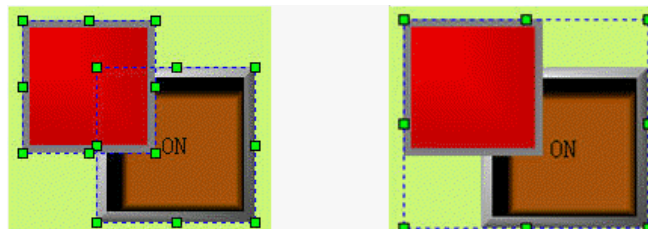

Figure 4-6: Contrast before and after assembling
- First, choose the graph objects to be assembled, then press “Assemble” command in the Edit menu, or  button in the tool bar, or call the right click menu and choose Assemble command in the Assemble option. Figure 4-6 shows the contrast before and after assembling.